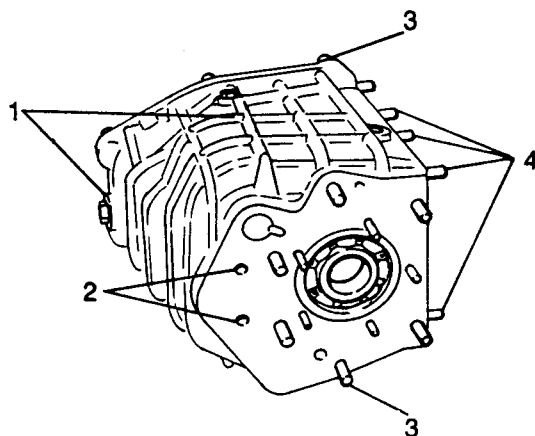

Fig H1.70
- (9) Refer to Fig H1.70. Remove the oil filler and drain plugs (1).
- (10) Remove the outer track of the rear layshaft bearing lightly tapping this out by means of the holes (2) provided in the casing.
- (11) Remove the front and rear studs of the casing (3) and the aligning dowels, as well as the fixing studs (4) for the fork retainer cover.